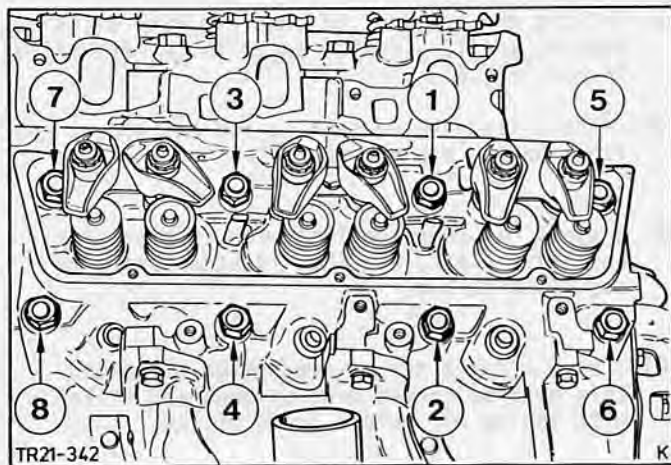

Fig.64. Tightening sequence - cylinder head bolts.
58. Fit complete cylinder heads. Insert the bolts (having lightly oiled the underside of the bolt head and the thread) and tighten to the specified torque in three stages (see Technical Data) in the order shown in Fig.64.